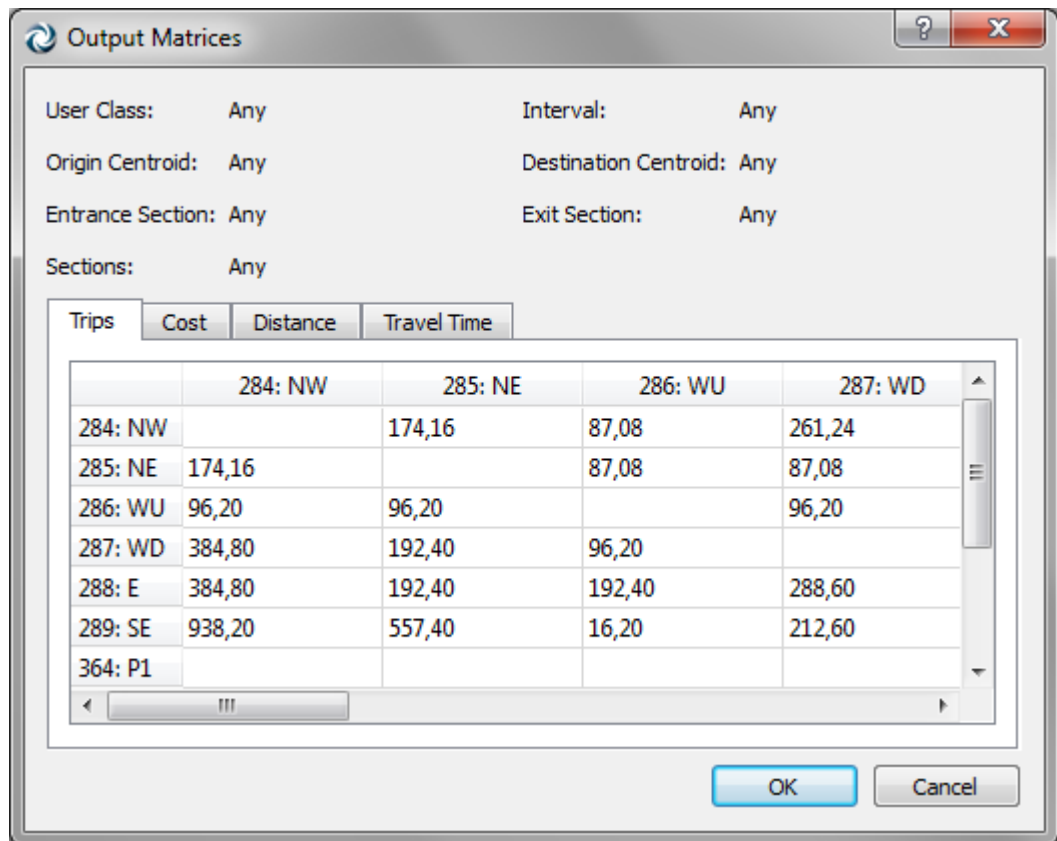

Figure 255 Trips skim matrix
- Output Matrices. This option creates the skim matrices using the current filter values. There are four basic output skim matrices: trips, cost, distance and travel time. In addition, for the static assignment, also the matrices corresponding to the Function Components defined will be calculated. In Figure 255 the trips output matrix for all intervals and O/D pairs is depicted.